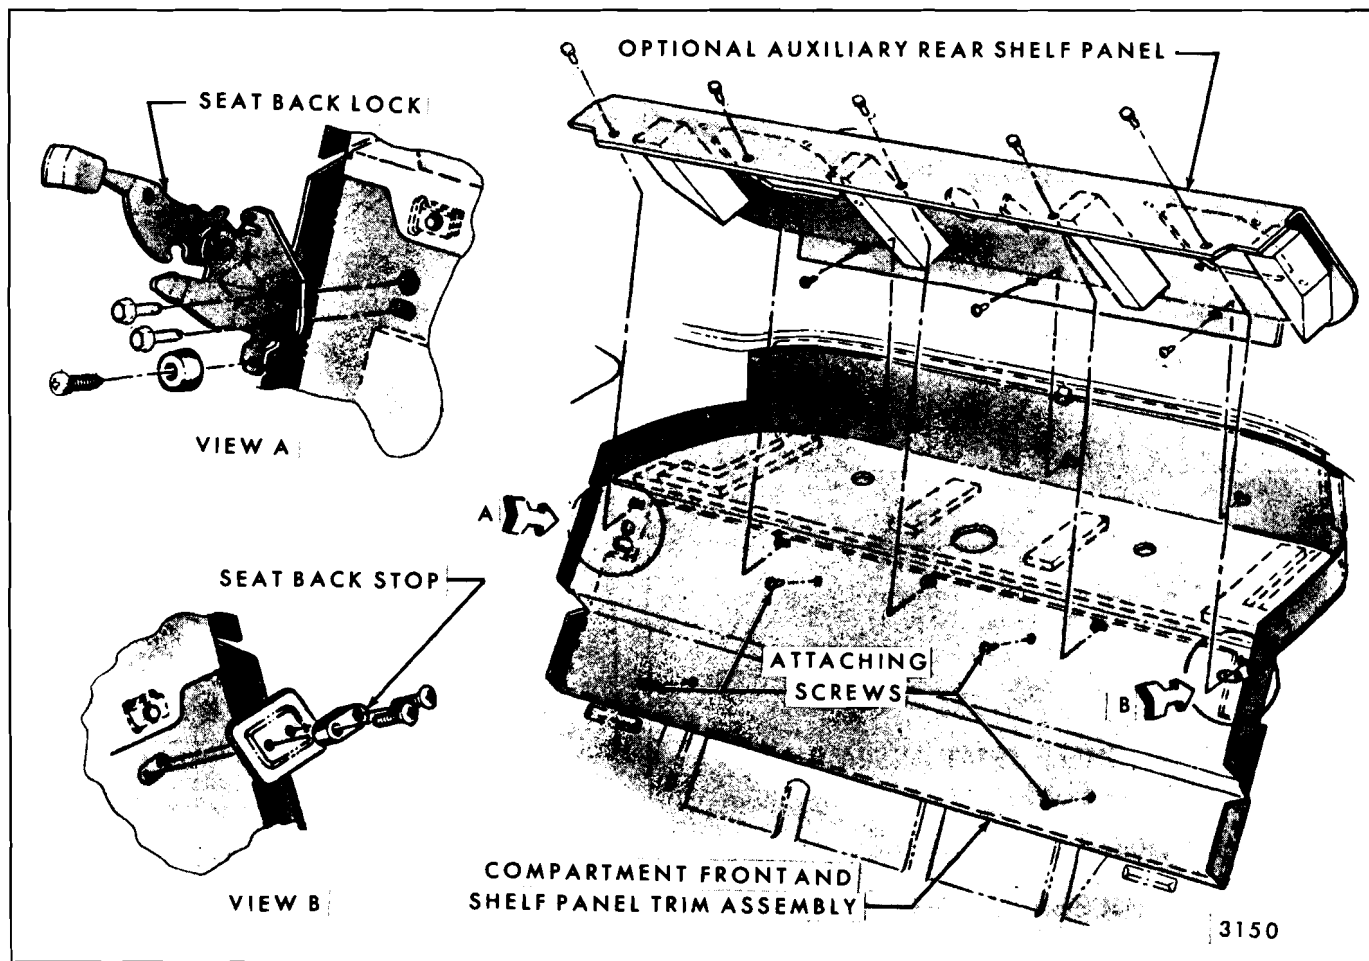

Fig. 14-45—Compartment Shelf Trim and Auxiliary Shelf Trim Panel "Z" Styles
with folding seat back, and rear seat back support assembly from styles with stationary seat back (See Fig. 14-45).
6. Remove optional auxiliary rear shelf panel (on styles equipped with optional back window defogger or rear seat speakers), by removing five attaching screws in front edge of auxiliary panel, lifting panel and removing three attaching screws from inside rear edge (Fig. 14-45).